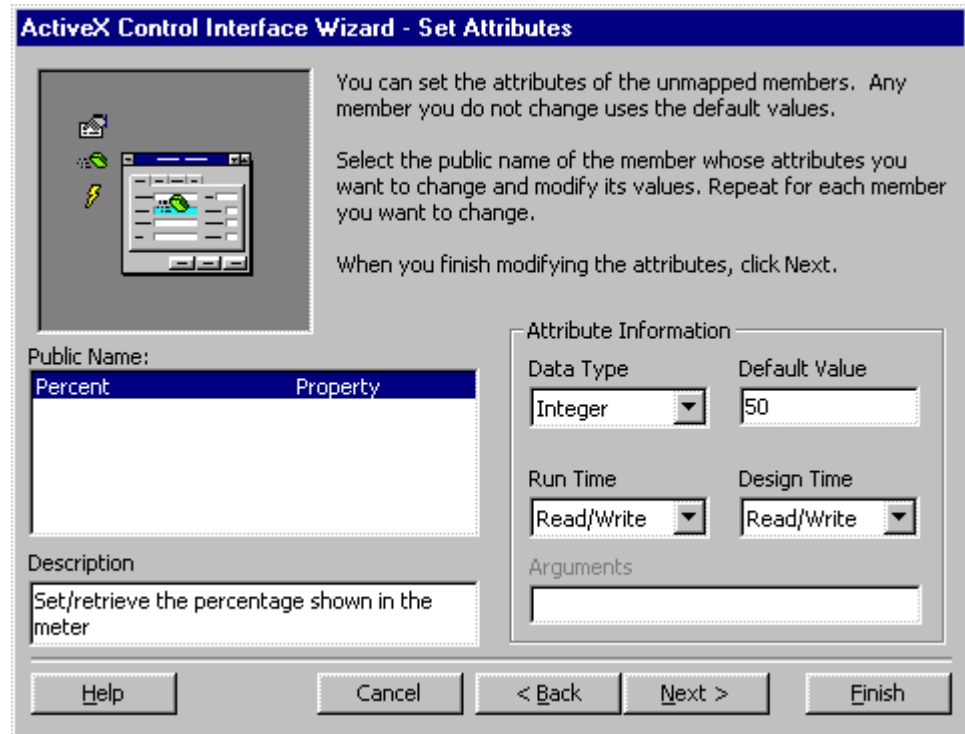

Figure 14. Set attributes of unmapped properties.
6. **Set attributes:** This page allows you set attributes for properties that aren't directly mapped to built-in properties in this session. In this example, you need to set properties of the Percent property as shown in Figure 14.